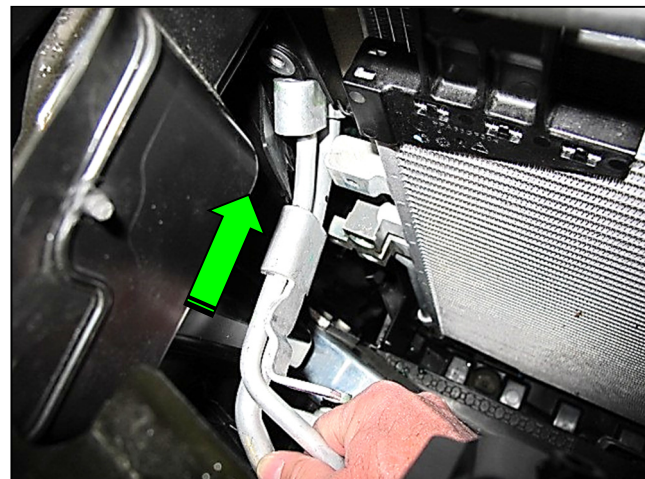

Figure 12
- d. Thread the A/C condenser pipe through the rubber deflector and the core support (Figure 12).